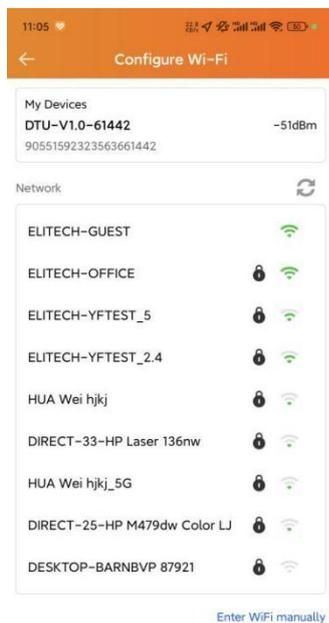

Fig.8 Network List
4. After the device is successfully paired with the mobile phone's Bluetooth, the APP will jump to the network connection interface. Select the WIFI network and enter the password (as shown in Figure 8/9).